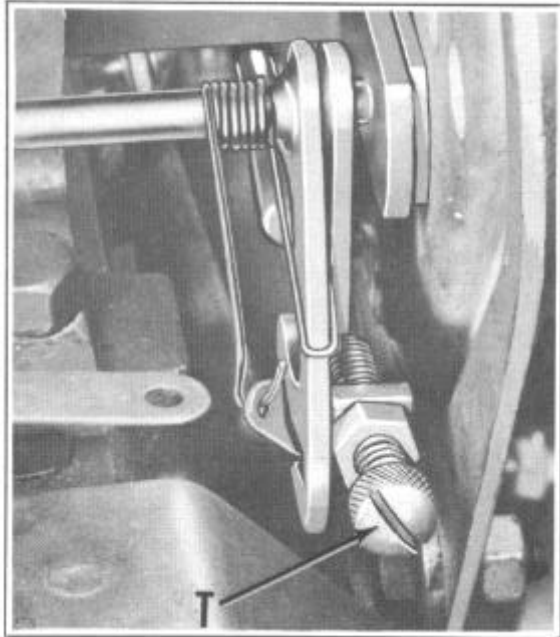

FIGURE 26
Adjust screw (T), Figure 26, until there is a slight increase in engine speed to 625-750 RPM when the car begins to move forward.
**NOTE:** Above adjustment should be made with the compensator in the starting position, pin (10) forward. The throttle adjusting screw on the 500 series is mounted in a bracket on top of the cylinder head.
A. To check slow start, depress accelerator pedal very slowly - engine should speed up slightly just before car starts to move. If necessary adjust screw (T), Figure 26, to meet this requirement.